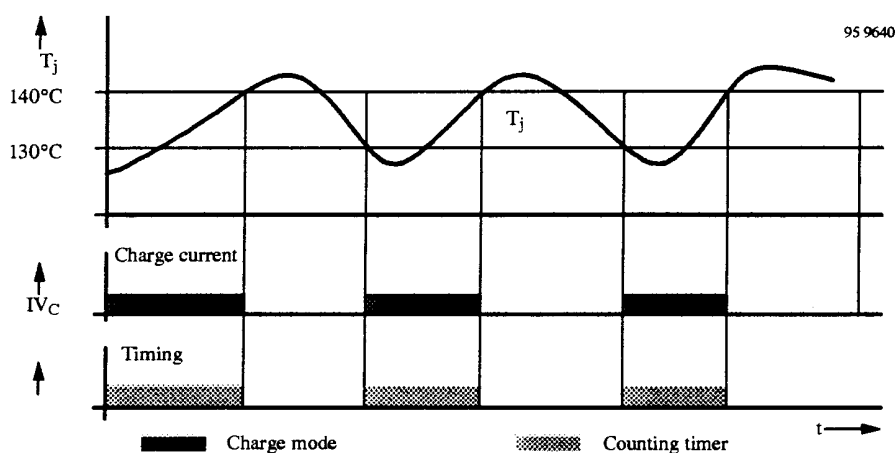

Figure 5a Charge duration in case of overtemperature
The oscillator is connected to GND via pin 3 (V_{SENSE}) which holds the present time status. When the chip temperature decreases below the transition value, all the functions are released and the charge time is continued. The process is reversible. If there is a higher power dissipation in the circuit ($T_j > 140^\circ\text{C}$) the temperature monitoring remains permanently activated (ON). The total cycle time is prolonged according to the interrupt time duration (see figure 5a).